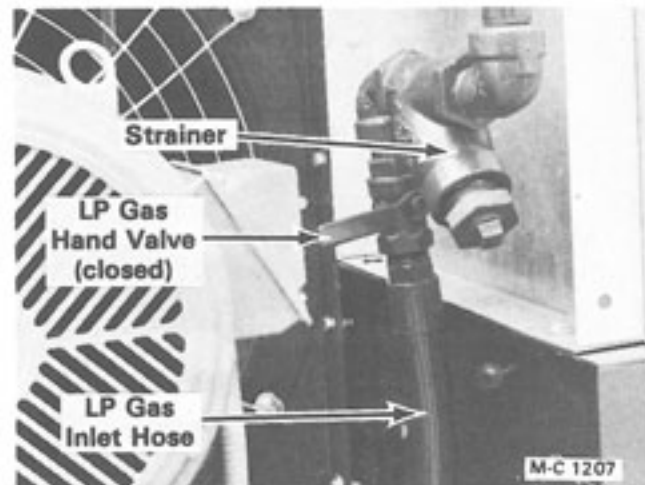

Figure 7 - LP Gas
2. **LP Gas** - Open the supply valve at the tank, the hand valve at the LP Gas inlet hose and open (lift up) the liquid line flip valve on each burner, see Figure 7 and 8. The flip valve is open when the handle is 90° to the piping.